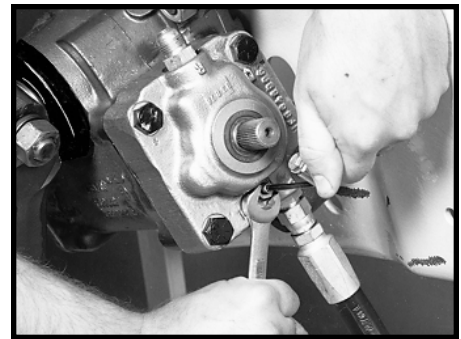

Figure 35
- 4.4 Once you have determined which poppet to adjust, loosen the poppet adjusting screw sealing nut (3 or 3A) and the poppet adjusting screw (2, 2A or 40) until the pressure gage reads maximum system (pump) pressure with steering wheel at full lock. SEE FIGURE 35.